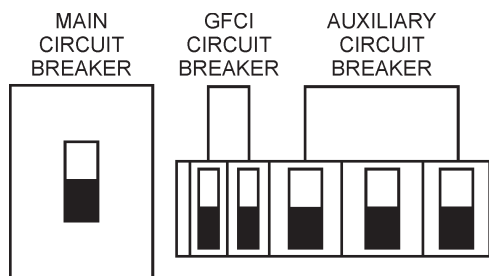

Figure 53. Main, GFCI and Load Circuit Breakers (OFF)
- Place both the **MAIN, GFCI and LOAD** circuit breakers as shown in Figure 53 to the **OFF** position.